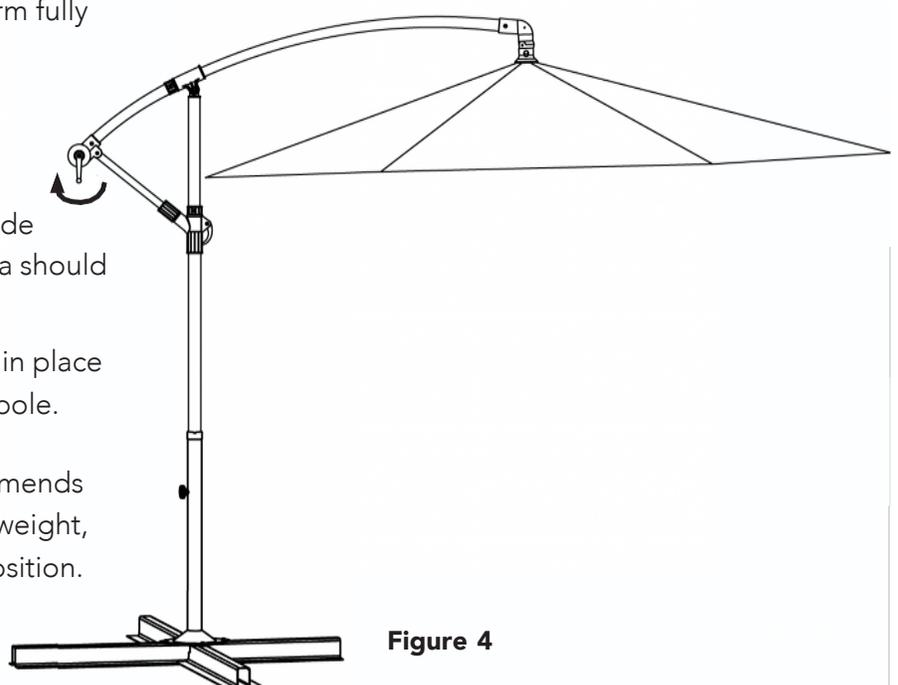

Figure 4
**STEP 2:** Lock in place by pushing Locking Handle in toward pole (2) and sliding Locking Sleeve down over Hinge (3). Turn umbrella Crank Handle clockwise to open umbrella to its fully open position, as shown in Figure 4.